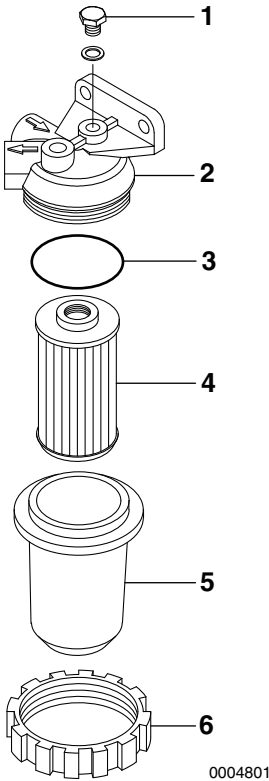

Figure 4
3. Loosen the air bleed screw (**Figure 4, (1)**) 2 to 3 turns.